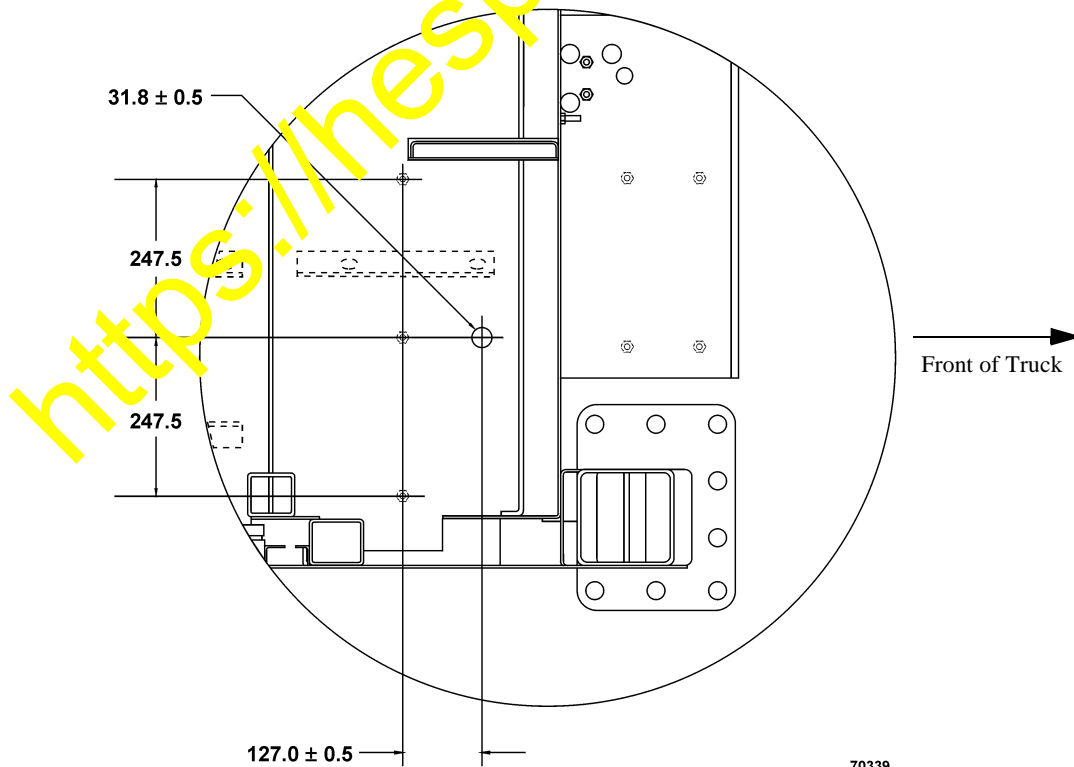

FIGURE 1. DRAIN HOLE LOCATION
10. If the truck is already equipped with a condensation drain, proceed to step 11. If it is necessary to install the drain, locate the drain hole location by referencing Figure 1. The cab floor requires holes in both the top and bottom plates. Use care when locating and drilling holes as errors or misalignment will cause significant difficulty in installing the drain pipe nipple.